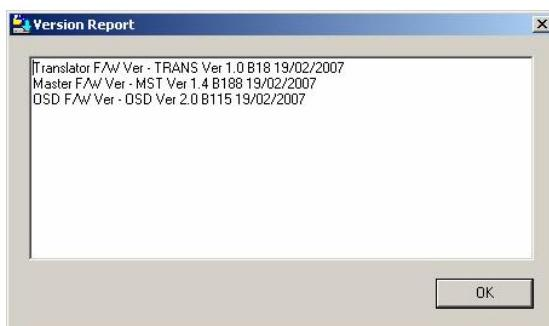

Figure 46 Firmware version report
- Click **F/W Version**. The firmware versions of the Translator, Master and OSD appear, see Figure 46.